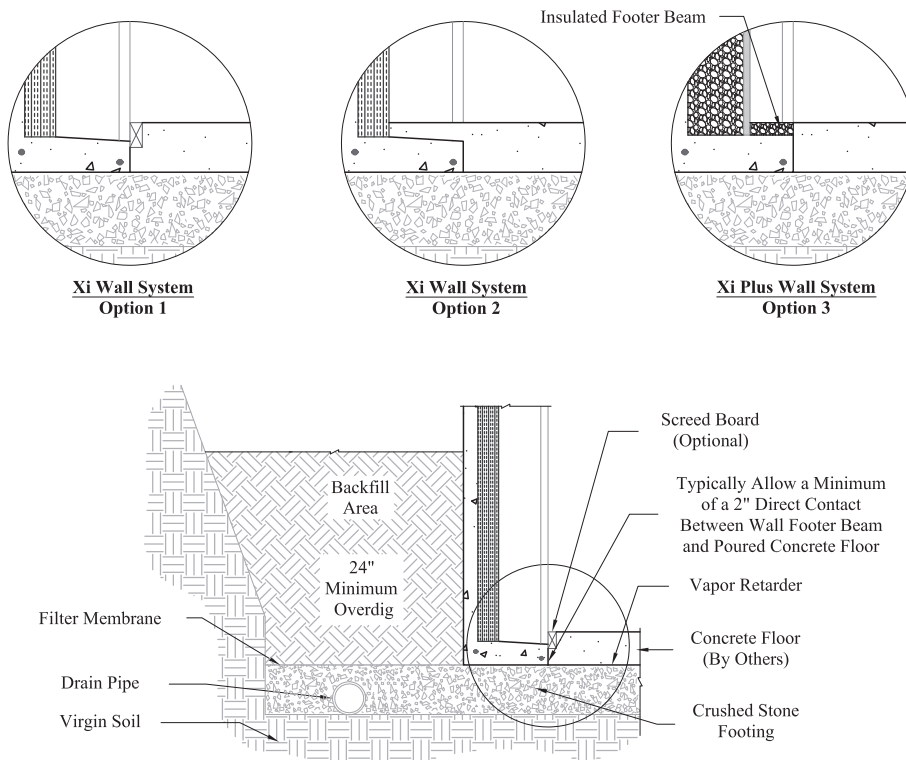

Figure 11
- For the Xi Wall System, fasten a piece of lath (pressure treated is recommended) to the galvanized stud facing at the desired height of the concrete floor to form a screed board (see Figure 11 - Option 1), or omit the screed board and allow concrete floor pour to flow between the stud cavities on top of the Superior Walls footer beam (see Figure 11 - Option 2).
- For the Xi Plus Wall System, pour a 4" slab, using the upper edge of the insulated footer beam as a guide (see Figure 11 - Option 3).
- Typically allow a minimum of a 2" direct contact between wall footer beam and poured concrete floor. (See Figure 11 below.)